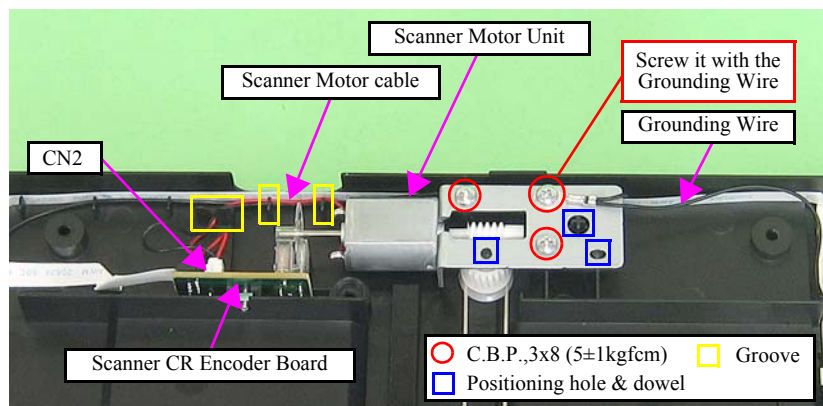

Figure 4-164. Removing the Scanner Motor Unit
- Route the Scanner Motor cable through the grooves (x3) of the Scanner Lower Housing. (See Fig. 4-164.)
- Align the positioning holes (x3) of the Scanner Motor Unit with the dowels (x3) of the Scanner Lower Housing. (See Fig. 4-164.)